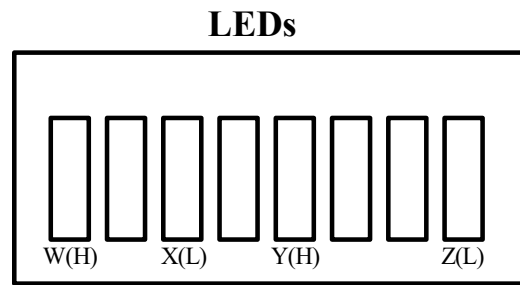

Figure 4: LED layout (legend). Note that each LED should be on (lit) when the corresponding signal is true.
8. Make an **LED legend on your logic circuit diagram** that indicates the location of each LED on an LED DIP chip (as shown in Figure 4).